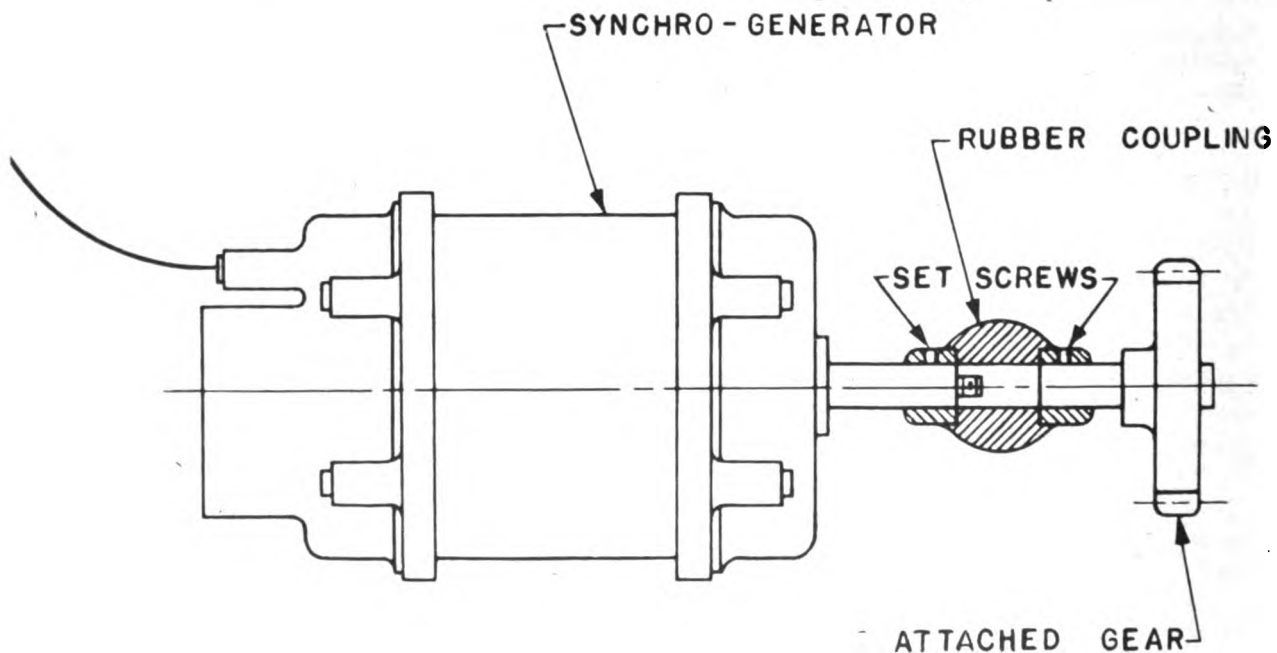

Figure 32. Synchro-generator coupling.
h. Loosen the setscrew in the coupling between the synchro-generator and the adjoining shaft until the gear on the shaft is free to rotate without turning the synchro-generator (fig. 32).